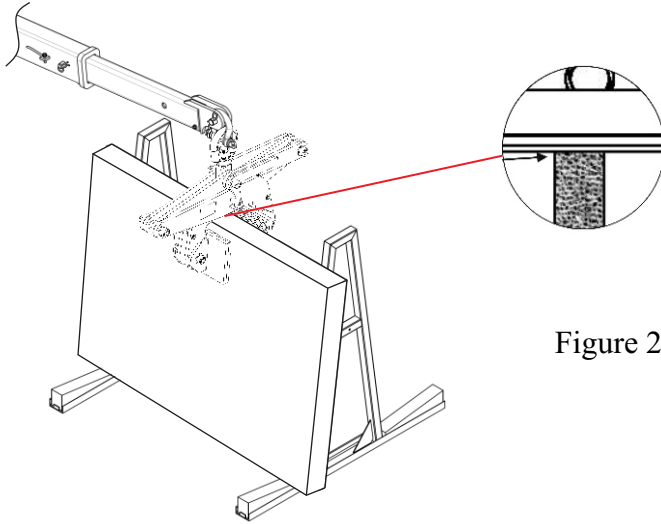

Figure 2.3
- Lowering the device to allow the slab fully inserted into the opening of the clamp (Figure 2.2), place at the center of the material and the top edge of the slab to touch the stopper (Figure 2.3).